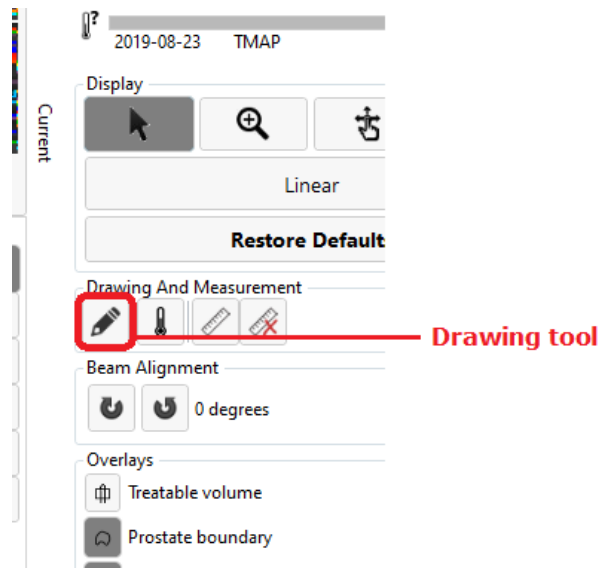

Figure 49: Prostate-boundary 'Drawing' tool on Delivery screen
2. Once delivery is paused, expand the right panel in the Delivery workspace to select the prostate boundary drawing tool (Figure 49).